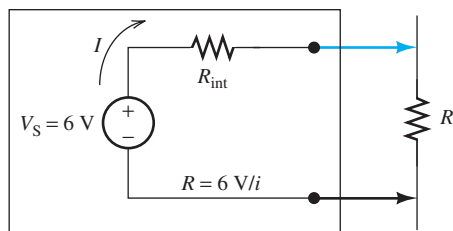

FIGURE P14.3 Ohmmeter circuit.
- 14.3 (H) An ohmmeter applies a known voltage to the thermistor and measures the current drawn, I . The resistance is then calculated internally from this voltage and current. To prevent a short circuit between the leads from causing an extremely high current, a small resistor, R_{int} , is placed in series with the leads, as indicated in Figure P14.3.